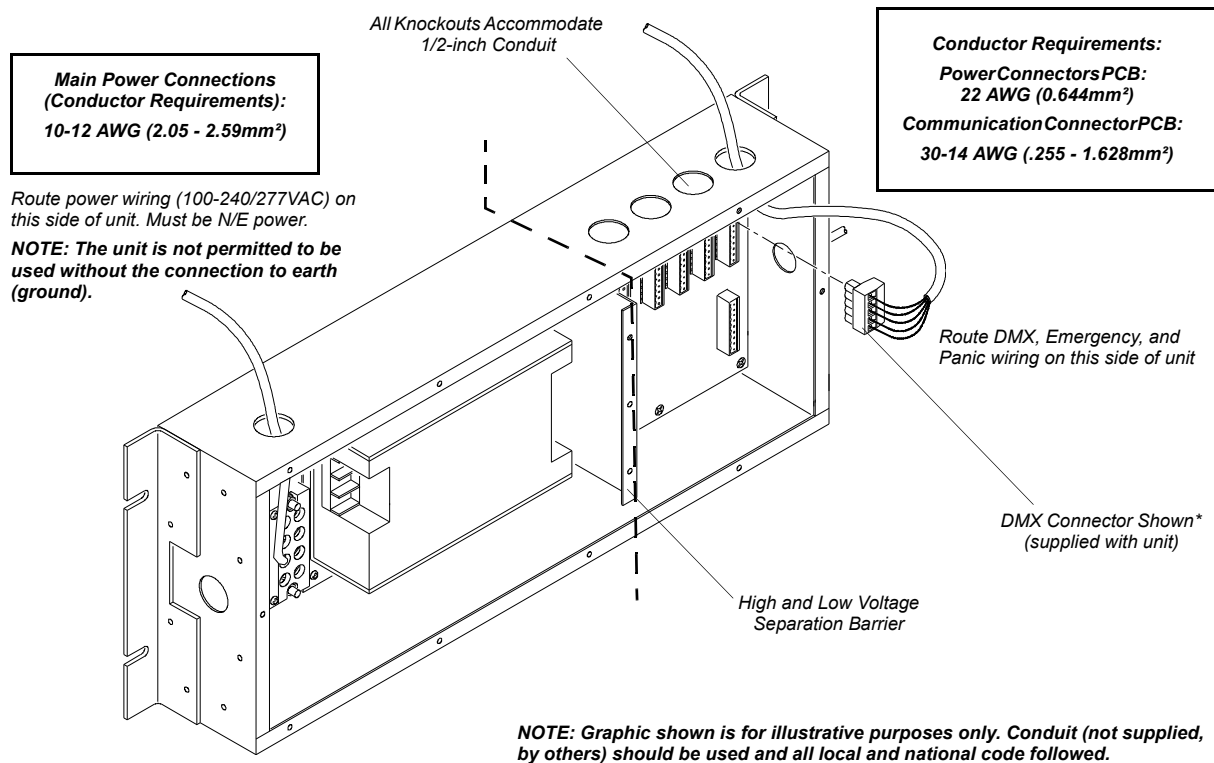

Figure 7: Power Input and Network Wire Routing
Step 8. Route power input wires and network cables as shown in **Figure 7**. See "Network Wiring" on page 11 for connections.